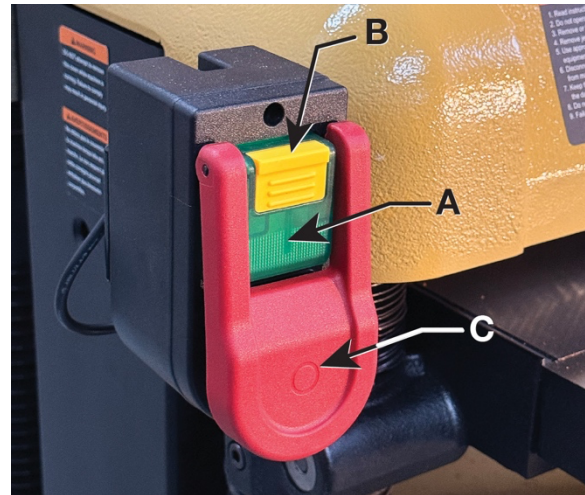

Figure 10-1
Refer to Figure 10-1.
3. Start the motor by pressing the green ON switch (A, Figure 10-1).
2. Start the motor by pressing the green ON switch (A, Figure 10-1).